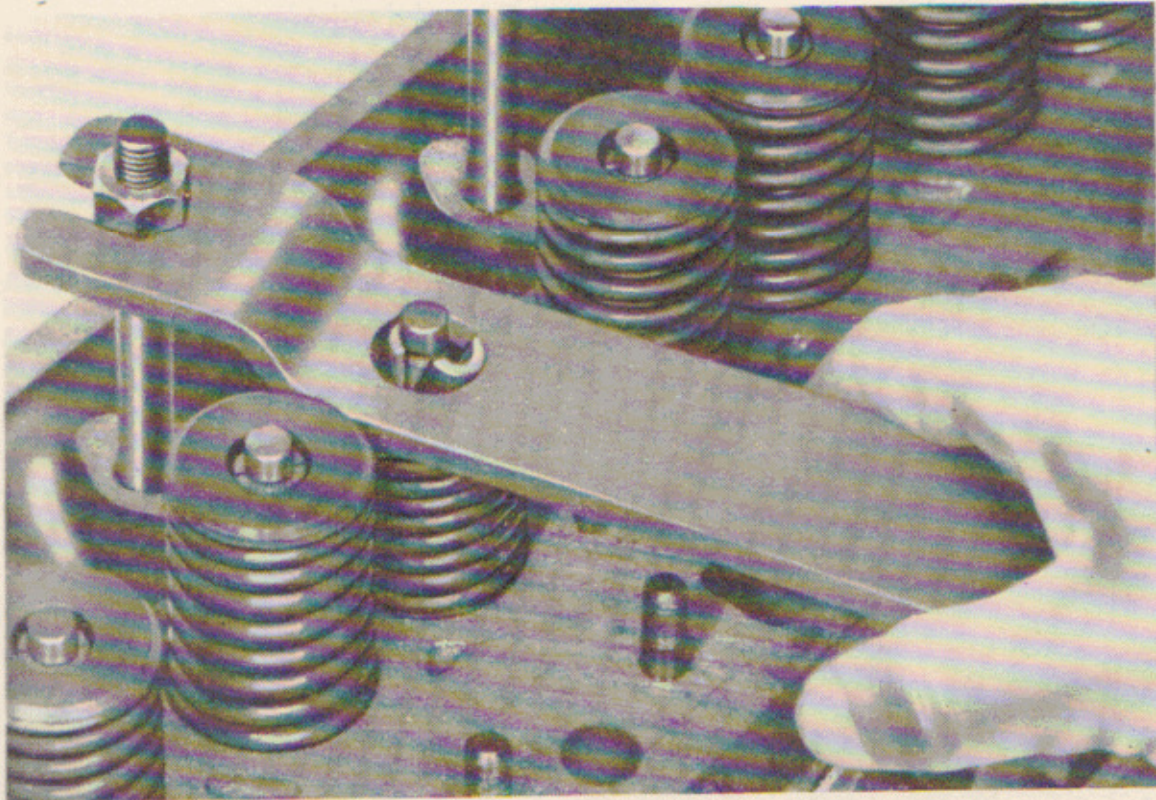

Fig. 39.
16. Remove valves. A special tool is required to compress the valve springs in order that the valve cotters can be removed (see Figs. 39 and 40). A wooden block approximately $2\frac{1}{2}$ " x $1\frac{1}{2}$ " x $\frac{3}{4}$ " thick should be placed in the combustion chamber to prevent the valve lifting off its seat when the springs are compressed. With block in position give the valve collar a slight downward tap to ease the cotters, before compressing the spring for cotter removal.